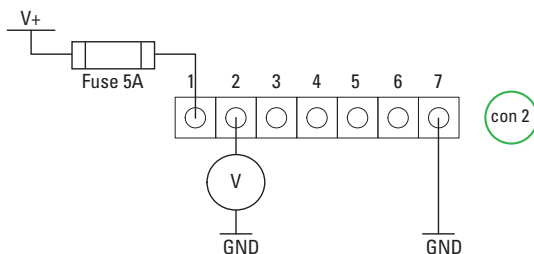

Figure 19. Determining the batteries SoC
3. Determine the voltage at Pin 2 of CON2 (see Figure 19)